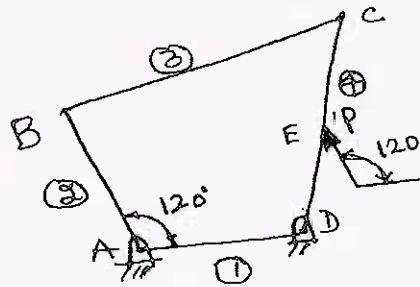

Fig.Q1(b)
- b. A four bar mechanism shown in Fig.Q1(b) is acted by a force  $P = 100 \angle 120^\circ \text{N}$  on link CD. The dimensions of the various links are  $AB = 40 \text{ mm}$ ,  $BC = 60 \text{ mm}$ ,  $CD = 50 \text{ mm}$ ,  $DA = 30 \text{ mm}$  and  $DE = 20 \text{ mm}$ . Determine the magnitude and direction of input torque  $T_2$  on link AB for the static equilibrium of the mechanism.